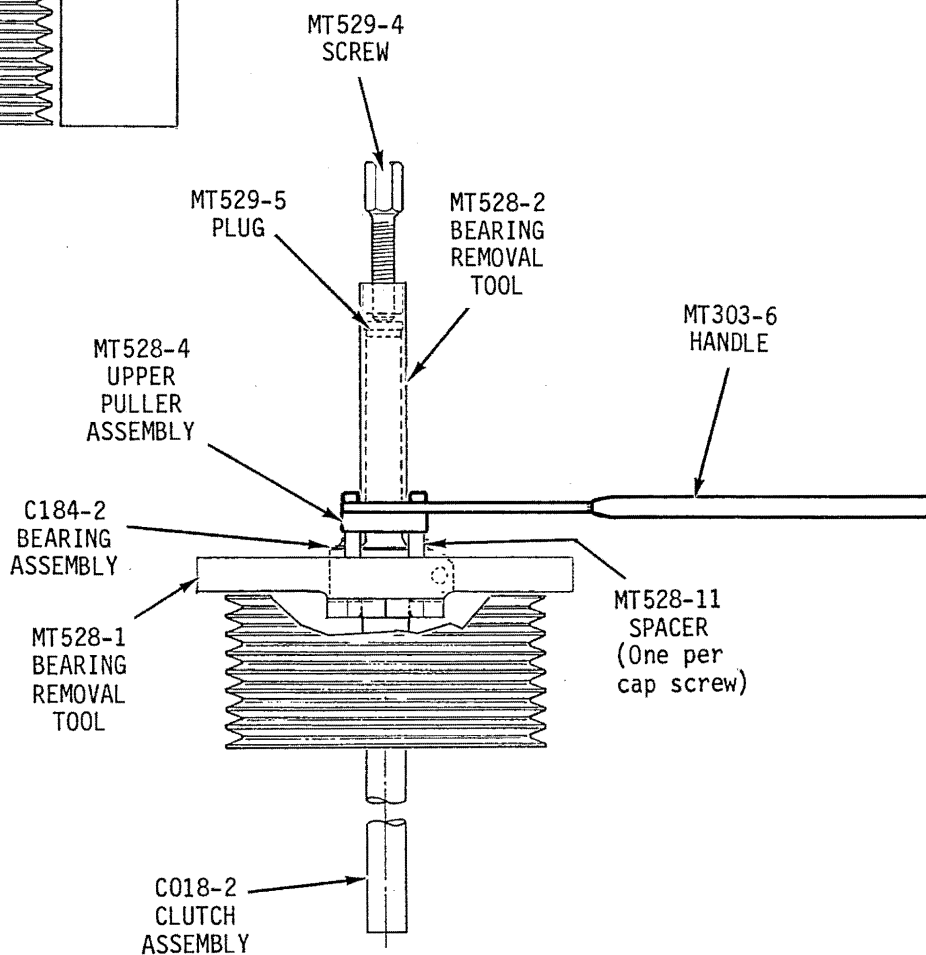

FIGURE 7-3B
1. Install MT528-1 and MT528-2 bearing removal tools per Figure 7-3B. Use only one MT528-11 spacer at each cap screw. Ensure MT529-4 screw threads are coated with anti-seize.